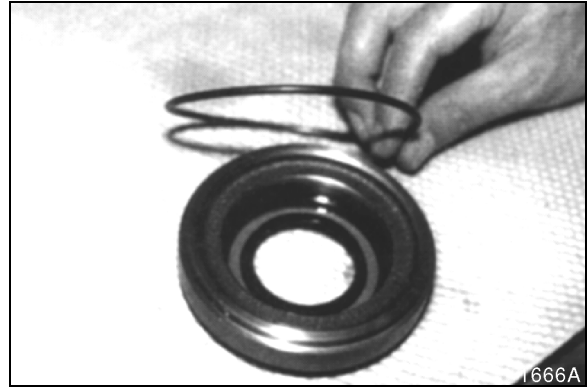

Figure 73
10. Remove O-ring from oil seal case. See Figure 73.